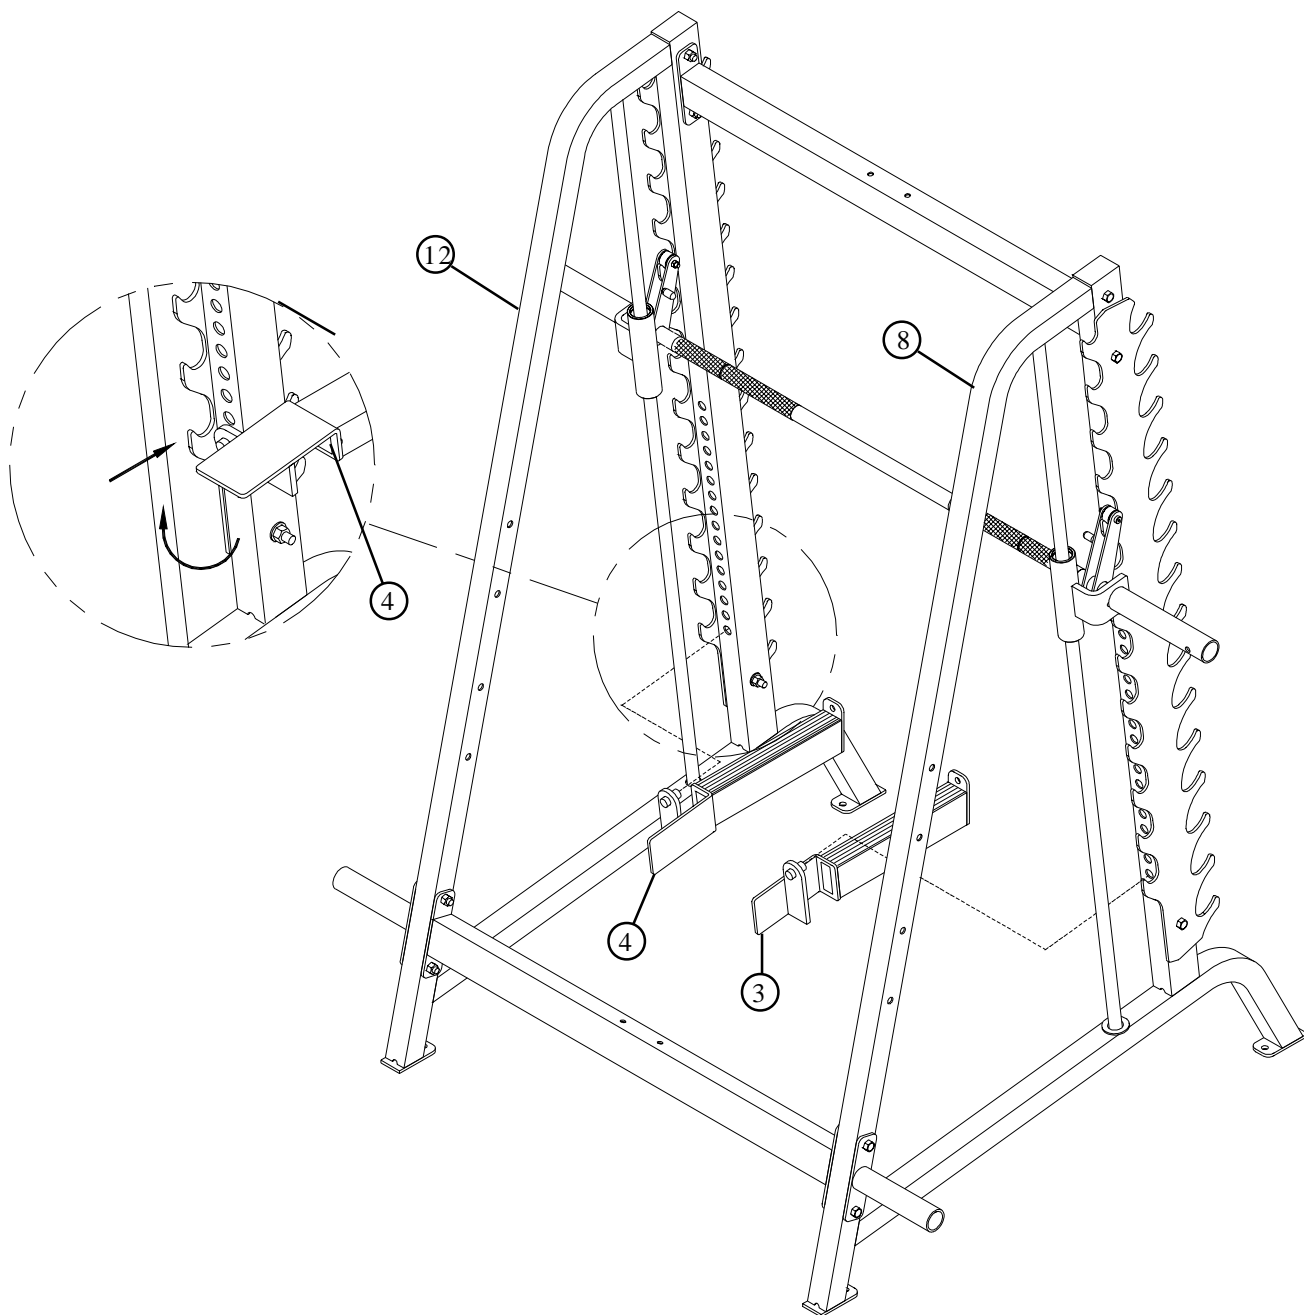

**FIGURE 3**
- Hook the SMITH BAR (5) onto slots of the BAR SUPPORT RACKS (10).
- **CAREFULLY** slide one GUIDE ROD (9) through the upper hole in the LEFT and RIGHT UPRIGHT FRAMES (8 & 12). Slide one 1" SHAFT COLLAR (11) over the bottom of the GUIDE ROD (9), as shown in FIGURE 3.
- **CAREFULLY** lower the GUIDE ROD (9) through the HOUSING (6) on the SMITH BAR (5). (NOTE: Allow the GUIDE RODS (9) to push plastic tube out the bottom of the HOUSING (6). Discard this tube)
- Insert the GUIDE ROD (9) into the bottom hole of the LEFT and RIGHT UPRIGHTS (8 & 12). Repeat these steps on opposite side.
- Slide the 1" SHAFT COLLARS (11) up the GUIDE RODS (9) to the bushing and **SECURELY TIGHTEN**.